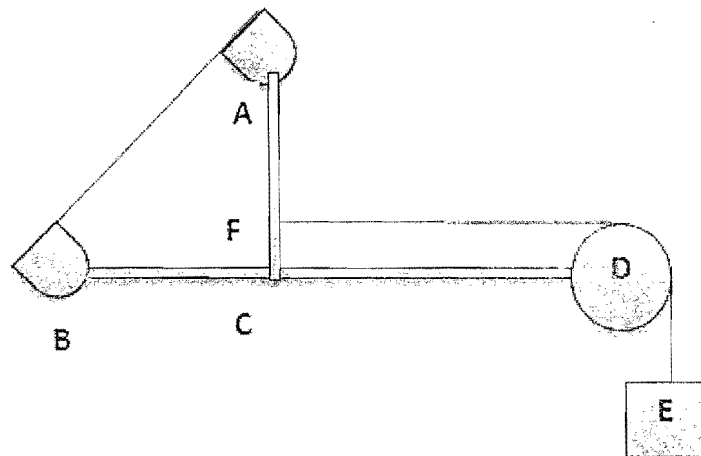

Figure 4
- a) In the diagram **Figure 4** below, the pin-jointed structure supports a block **E** of weight 14.4 N by a Pulley **D**. the distances $AF = 150$, $FC = 50$, $BC = 150$, and $CD = 300$. Neglecting the weights of the members of the structure;